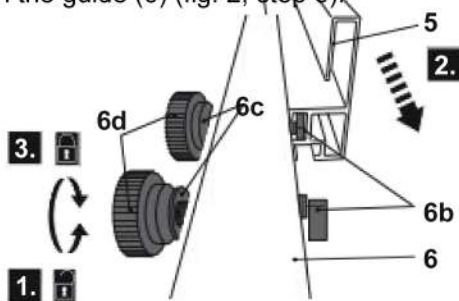

fig. 2
- > Loosen the locking nut (6d) (fig. 2, step 1).
- > Slide the screw head (6b) into the channel of the short guide (5) (fig. 2, step 2).
- > Tighten the lock nut (6d) with washer (6c) to fix the short guide (5) in the desired position on the guide (6) (fig. 2, step 3).